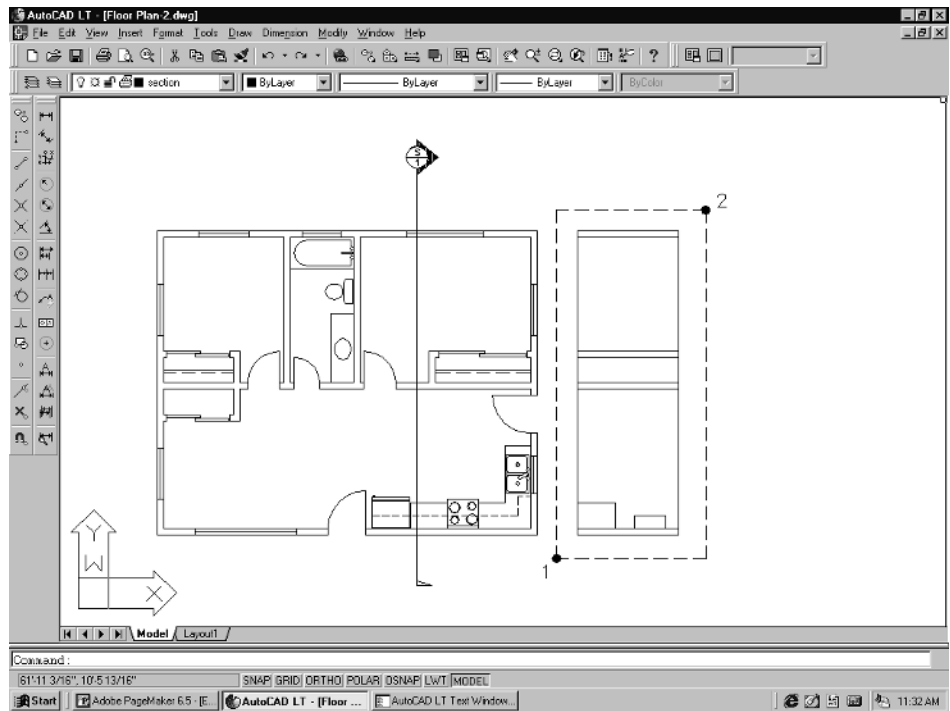

Figure 3-32
2. Now that we are back in plan view, we need to rotate the section walls and floor/ceiling lines, so that they are horizontal. To do this, pick **Rotate** from the Modify pull-down menu. When the command line prompts you to *Select objects*, pick corner 1 as shown in Figure 3-32. When asked to *Specify opposite corner*, pick corner 2.